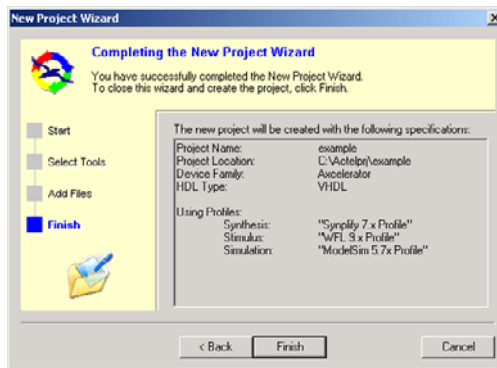

Figure 2-5. Summary in New Project Wizard (Libero IDE)
10. Review your project information. Click **Finish** to close the Wizard and create your new project (Figure 2-5). Click Back to return to any step of the Wizard and correct information in your project.